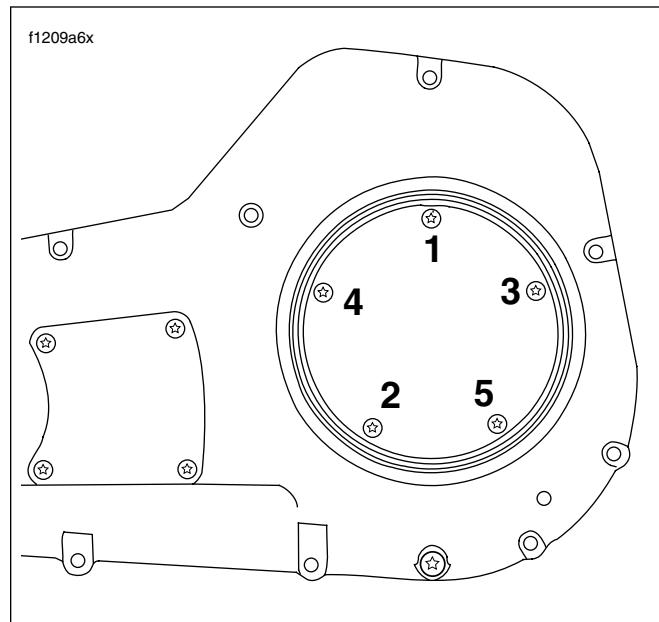

Figure 6-3. Clutch Inspection Cover Torque Sequence
2. See Figure 6-3. Install clutch inspection cover with **new** gasket. Make sure the correct side of the gasket faces the clutch inspection cover. In sequence, tighten fasteners to 84-108 **in-lbs** (9.5-12.2 Nm).